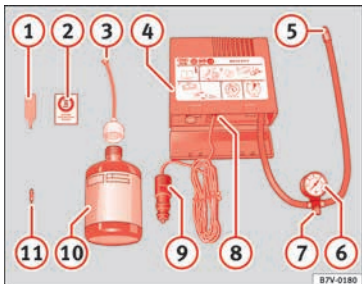

Fig. 57 Standard representation: contents of the anti-puncture kit.
- Unscrew the tyre valve cap and insert. Use the » Fig. 57 ① tool to remove the insert. Place it on a clean surface.
- Shake the tyre sealant bottle vigorously » Fig. 57 ⑩.
- Screw the inflator tube » Fig. 57 ③ into the sealant bottle. The bottle's seal will break automatically.
- Remove the lid from the filling tube » Fig. 57 ③ and screw the open end of the tube into the tyre valve.
- Place the insert back into the tyre valve using the tool » Fig. 57 ①.
- Screw the compressor tyre inflator tube » Fig. 57 ⑤ into the tyre valve.
- Check that the air bleed screw is closed » Fig. 57 ⑦.
- Insert the connector » Fig. 57 ⑨ into the vehicle's 12-volt socket » page 138.
- Turn the air compressor on with the ON/OFF switch » Fig. 57 ⑧.